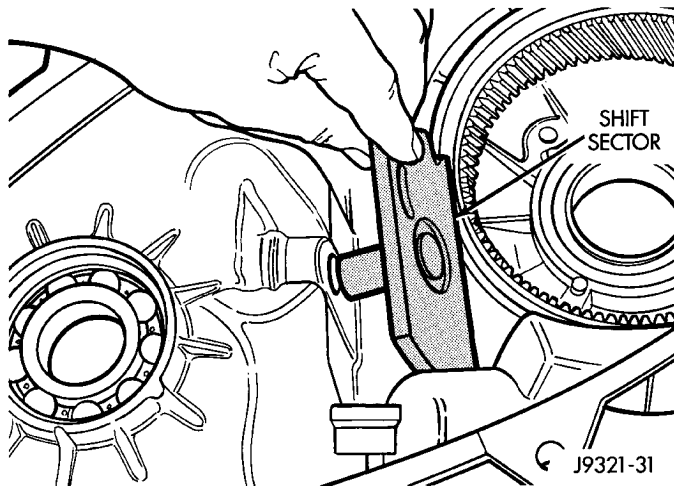

Fig. 60 Shift Sector Installation
(2) Install shift sector (Fig. 60).